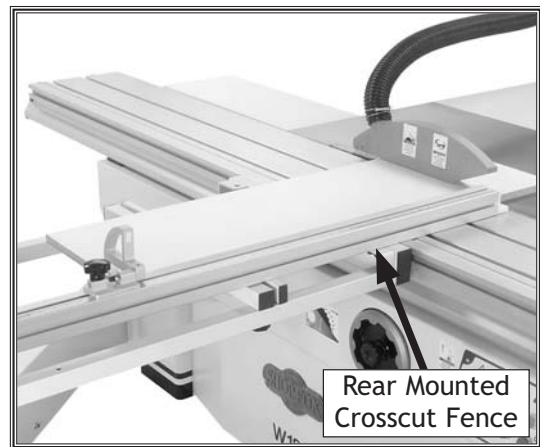

Figure 73. Crosscut fence mounting in rear position.
Mounting the crosscut fence in the rear position (**Figure 73**) gives greater stability for crosscutting smaller panels.
4. Load the workpiece onto the table saw (**Figure 73**).